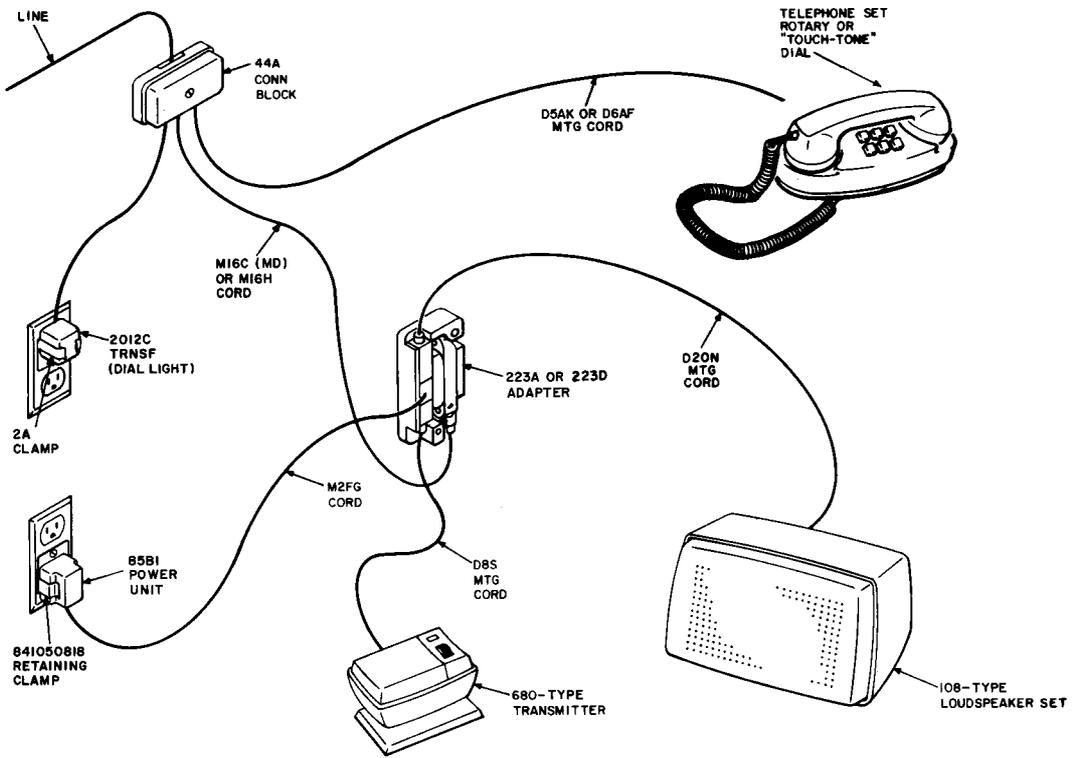
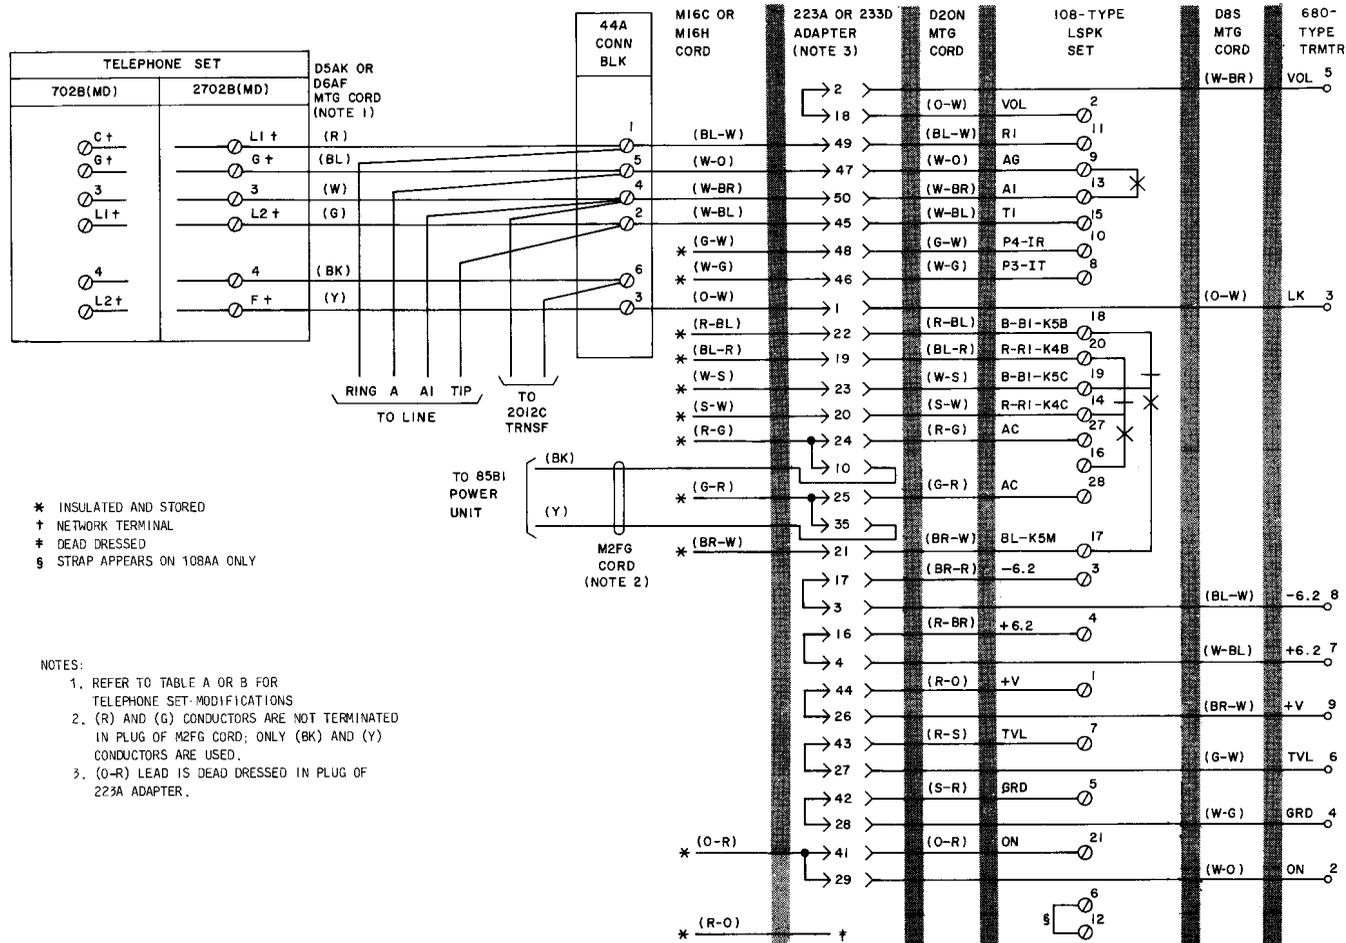

Fig. 1—Typical Grandfathered 4A Speakerphone System Arrangement, 702B (MD) and 2702B (MD) Telephone Set Using 223A (MD) or 223D Adapter
Fig. 3—Typical Grandfathered 4A Speakerphone System Arrangement, Connections to 702B (MD) and 2702B (MD) Telephone Sets
1.03 To provide 4A speakerphone feature at these telephone sets, refer to (Fig. 1 and 2) for layout arrangement of the components required for the system and (Fig. 3, 4, and 5) for individual lead connections.
2.04 Power shall be supplied by connecting 85B1 power unit as shown in Fig. 1 through 5.